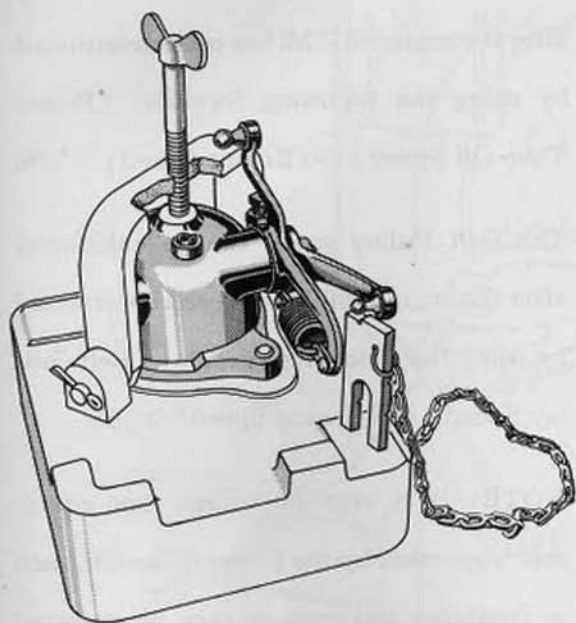

FIG. 10
- (a) Install the assembled governor on the governor setting gauge as illustrated in Fig. 10.